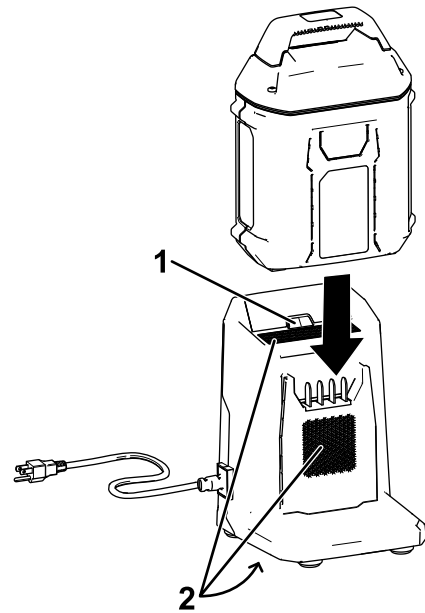

**Figure 13**
2. Line up the cavity in the battery pack (Figure 13) with the tongue on the charger.